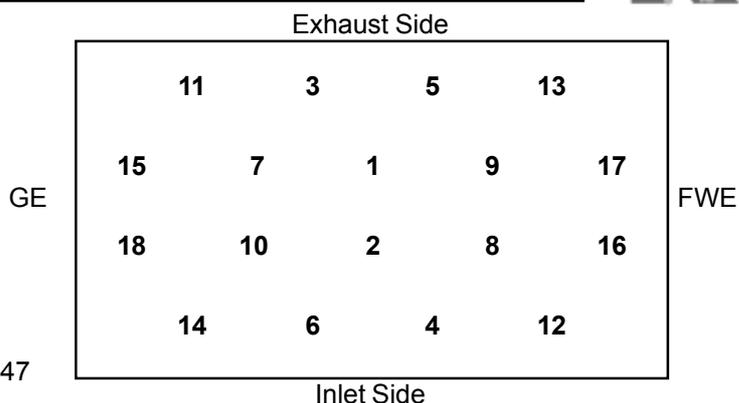

Fig. 7-47
- Install the head on the crankcase and tighten head bolts as per the given sequence shown in Fig.7.47 and to the prescribed torque.